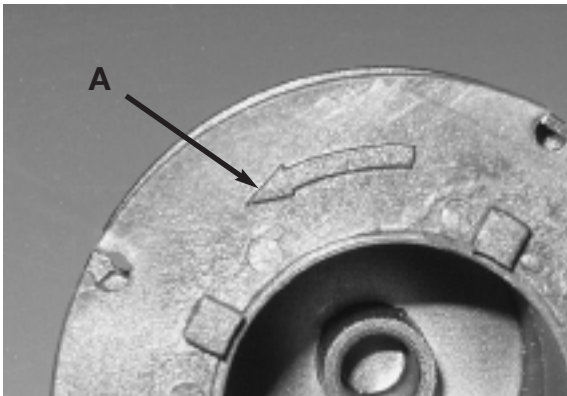
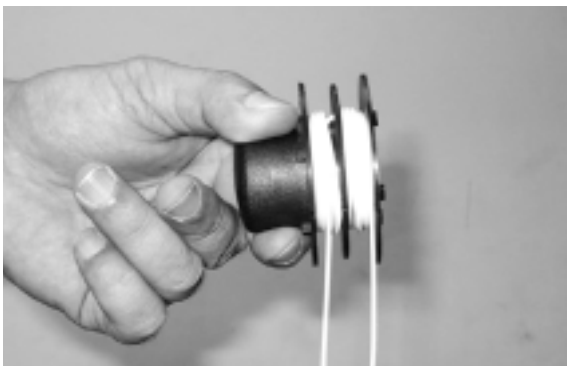

Fig. 20
Fig. 21
5. Wind the line onto the spool by turning the spool. The line should go on in the direction of the arrow (A) on the spool (Fig. 20). Line should be wrapped tightly around the spool. The line is wound with each half separated by the divider. Tightly wind it until there is about 6" of line left (Fig. 21).